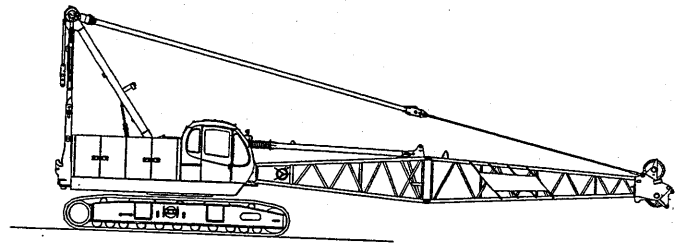

Fig 10-1
- (1) Unload the basic machine from the trailer, with boom base attached.
- (2) Unload the boom tip section from the truck.
- (3) Attached the boom tip section and guy line as in (Fig. 10-1).